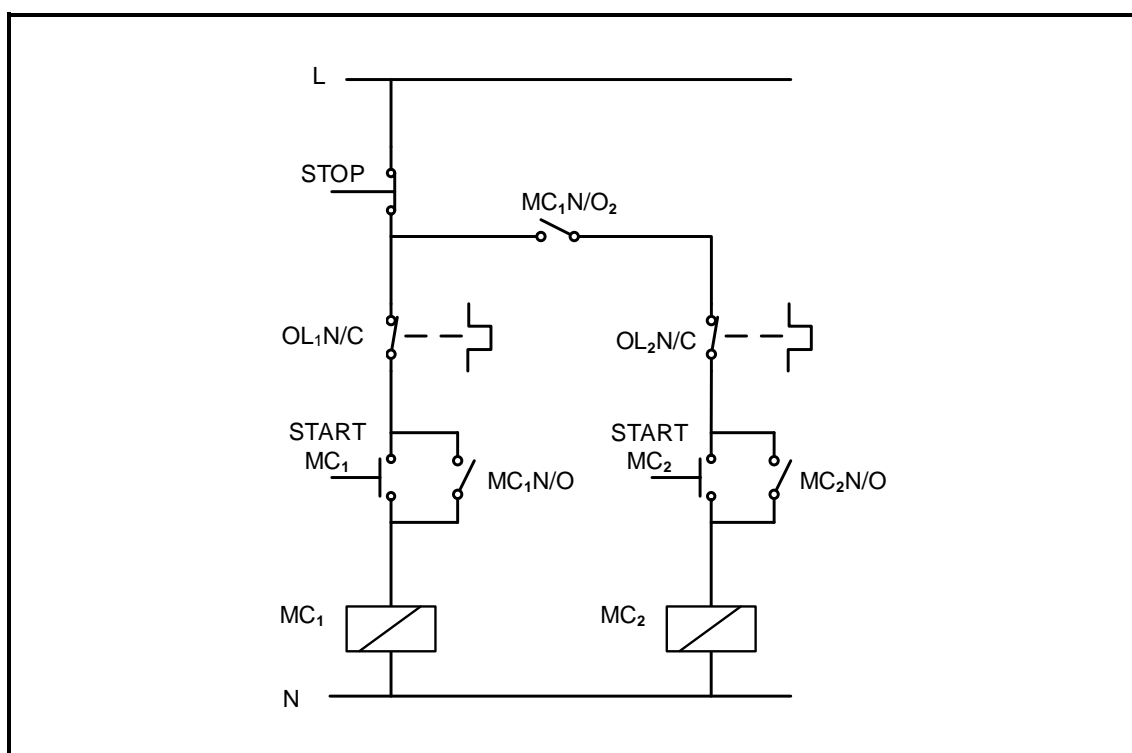

FIGURE 6.10: CONTROL CIRCUIT OF A MANUAL SEQUENCE STARTER
- 6.10 FIGURE 6.10 below shows the control circuit of a manual sequence starter. Draw the PLC ladder logic program that will execute the same function.